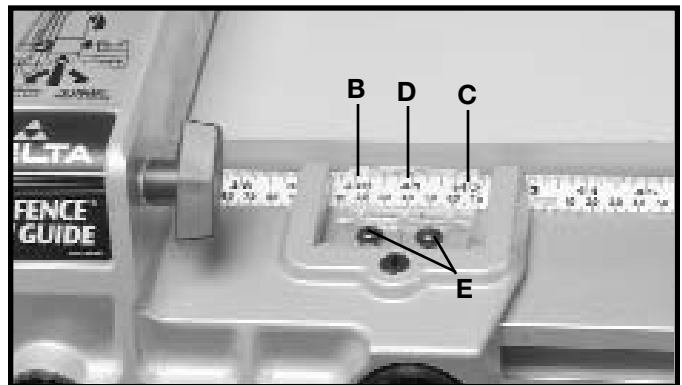

Fig. 42
5. The distance the fence is positioned away from the blade is indicated by the two witness lines (B) and (C) Fig. 42, located on the cursor (D). Witness line (B) indicates the distance the fence is away from the blade when the fence is in the horizontal position, and witness line (C) indicates the distance the fence is away from the blade when the fence is in the vertical position. If it is necessary to adjust cursor (D), make a test cut with the fence in either the vertical or horizontal position, measure the distance of the finished cut and move the cursor (D) by loosening the two screws (E) Fig. 42. After adjustment is completed tighten the two screws (E).